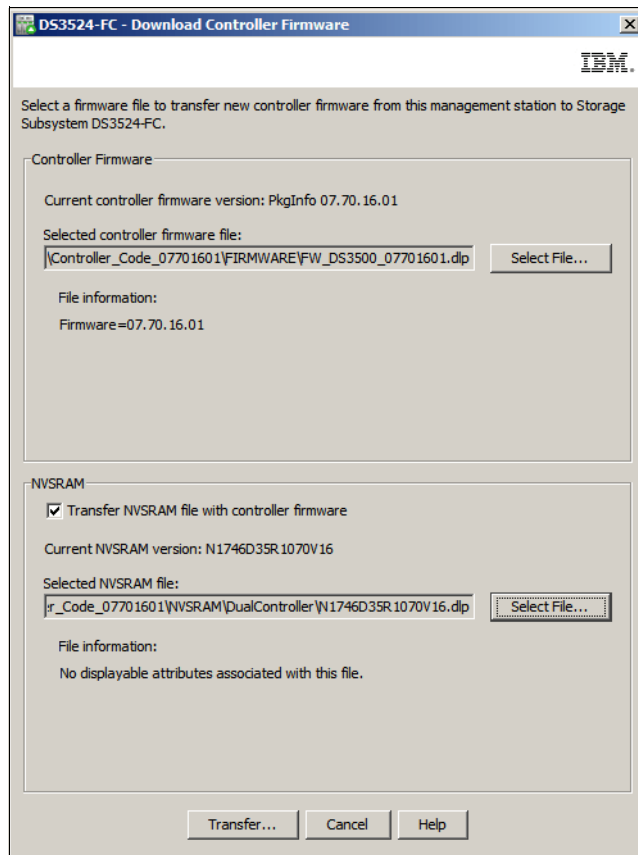

Figure 14-70 Download Controller Firmware - With NVSRAM firmware
5. To update the NVSRAM in the same step, select the **Transfer NVSRAM file with controller firmware** check box and browse to the NVSRAM file (Figure 14-70 on page 376).